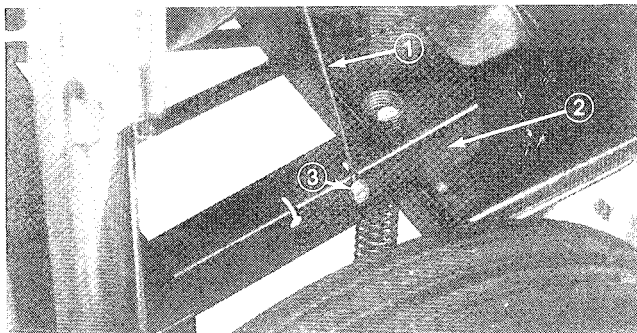

Figure 2
2. On self-propelled model, hook lower end (ball end) of the traction control wire in keyhole slot in arm on the traction drive guard (Fig. 2). Secure ball in keyhole slot with screw and nut (Fig. 2).